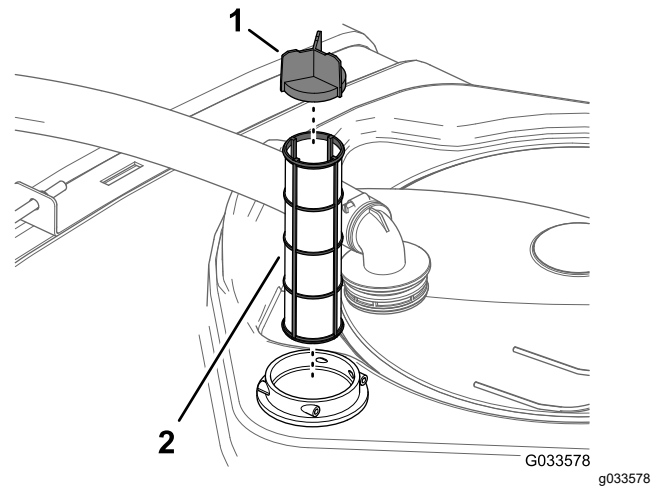

Figure 89
4. Remove the old suction filter from the filter housing in the tank (Figure 89).